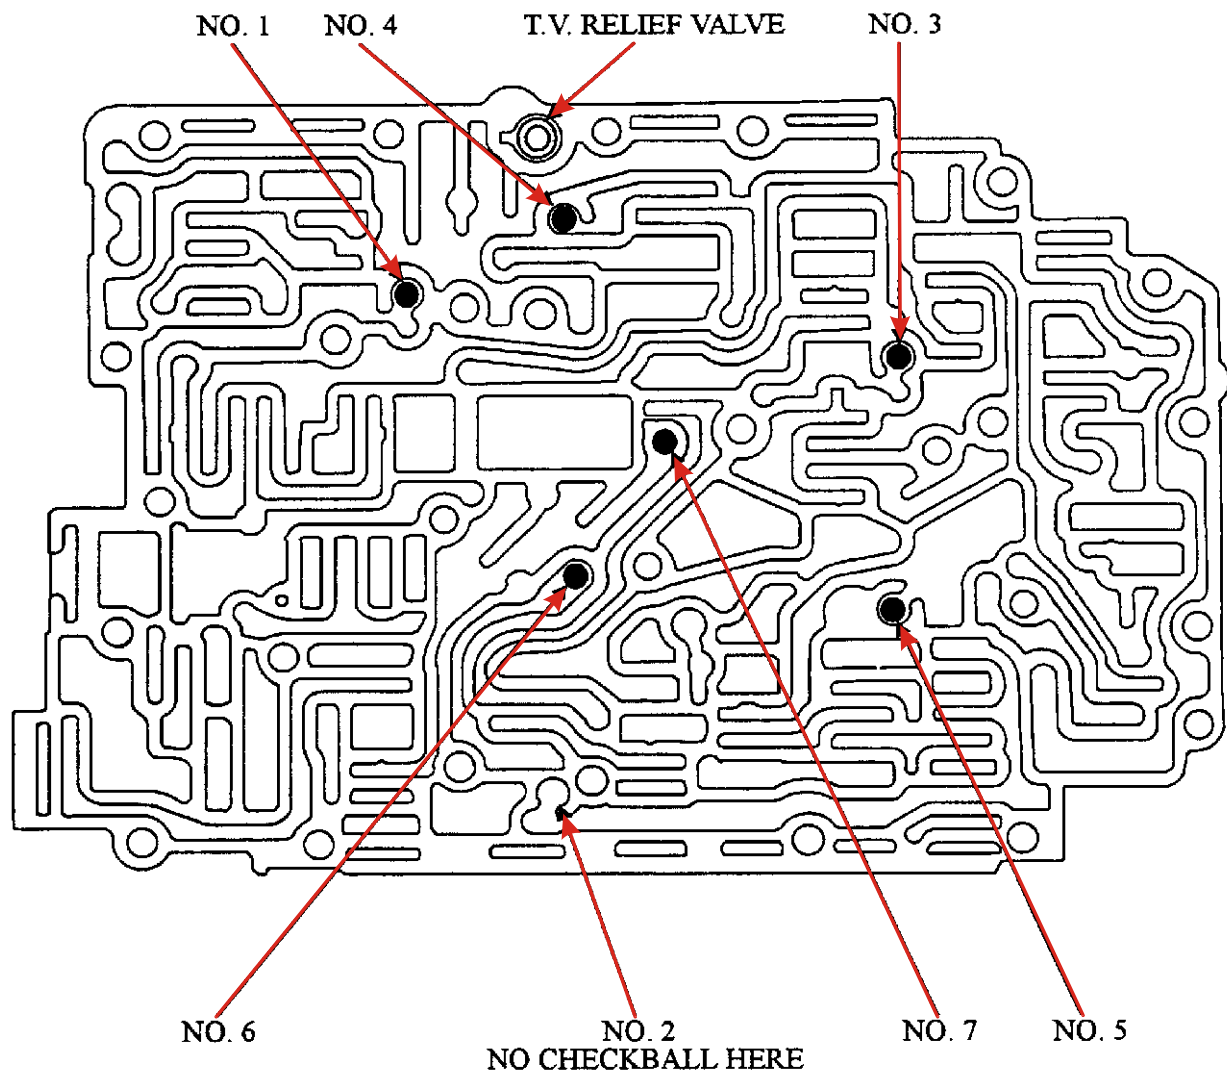

Figure 2
These valve bodies require six (6) checkballs placed in the locations shown in Figure 2, and is for following vehicles: